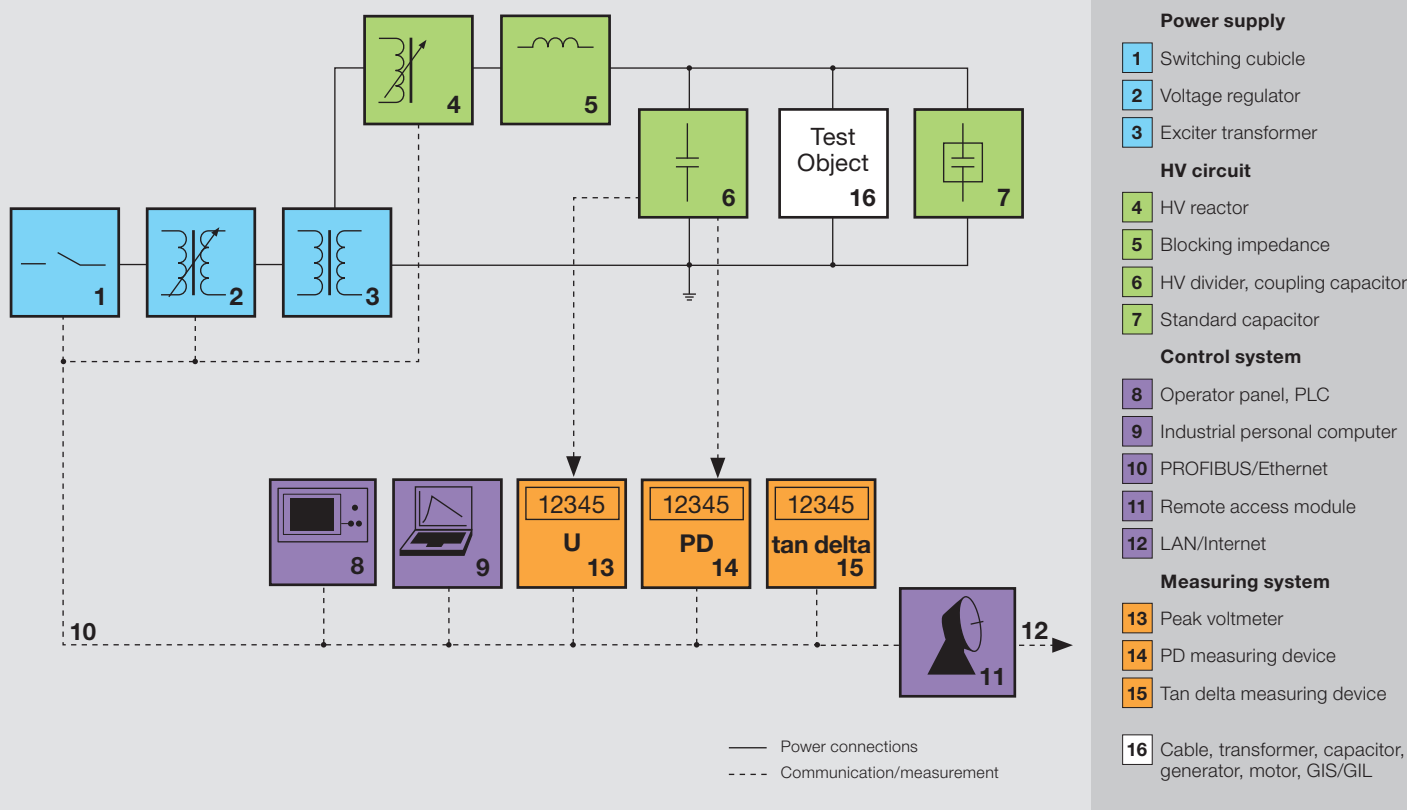

Fig. 3 Principle single line diagram of HVAC resonant test system
The system is supplied with the feeding power from the power network via a switching cubicle (1) [see fig. 3], a voltage regulator (2) and an exciter transformer (3). The exciter transformer is equipped with taps for an ideal adaptation of the output voltage. In case of tank-type reactors the exciter transformer is built into the tank of the HV reactor.